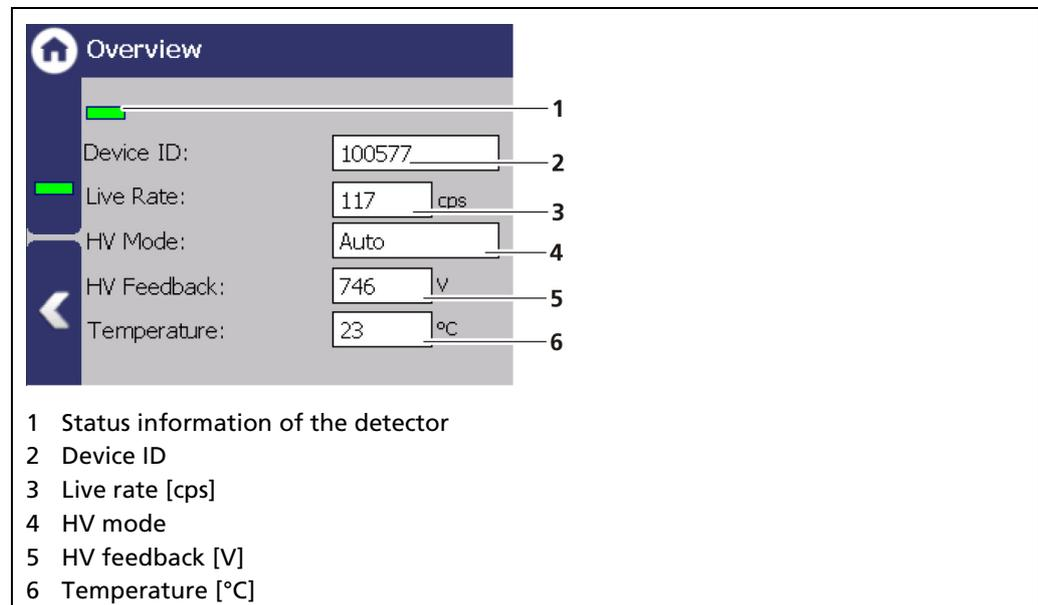

Fig. 58 Overview Detector Information
A green bar appears with error-free status of the detector (Fig. 58, item 1).
Device ID	Shows the ID (Fig. 58, item 2) of the detector.
Live Rate	The "Live Rate" (Fig. 58, item 3) displays the current, unfiltered count rate.
HV Mode	In the field "HV mode" (Fig. 58, item 4), the HV mode is displayed, which is chosen under Device Setup Setup Sensors [NAME DETECTOR] High Voltage HV Settings .
HV Feedback	The field "HV Feedback" (Fig. 58, item 5) displays the actual measured value in volts.
Temperature	The field "Temperature" (Fig. 58, item 6) indicates the current temperature of the detector in C°.